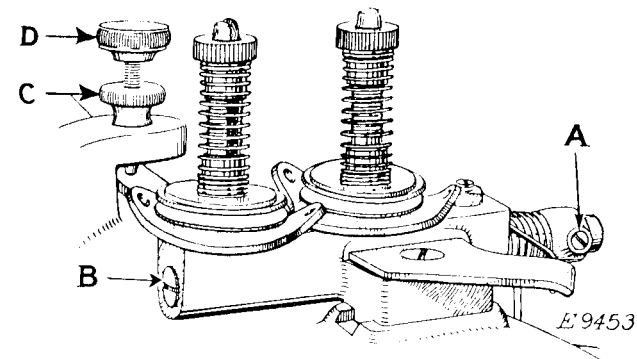

FIG. 15
The pressure of the presser foot on the material is regulated by means of the thumb screw (D, Fig. 15, page 19) at the top of the machine. To increase the pressure, loosen the lock nut (C, Fig. 15) and turn the thumb screw (D) downwardly. To decrease the pressure, turn the thumb screw upwardly. When the desired amount of pressure is obtained, firmly tighten the lock nut (C).
If the tension releaser does not release the threads when the presser foot is raised, or if the tension is partially released when the presser foot is down, loosen the set screw (A, Fig. 15) and turn the shaft (B, Fig. 15) to the right or left until the correct adjustment is obtained, then tighten the set screw.